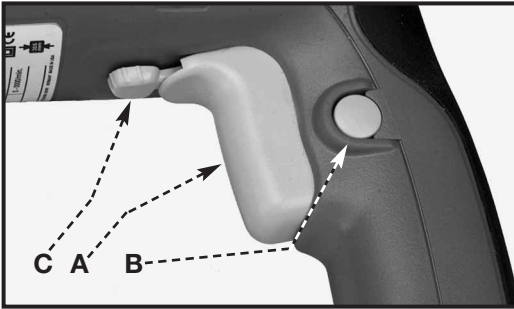

Fig. 1
2. Squeeze the trigger switch (A) Fig. 1 to start the motor. Release the trigger switch to stop the motor.
3. A switch-lock button (B) Fig. 1 is provided to keep the motor running without holding the trigger switch "ON".
4. This tool will operate in either the forward direction (clockwise rotation), or the reverse direction (counter-clockwise rotation). ALWAYS allow the motor to completely stop before reversing the direction. For CLOCKWISE rotation, move the switch button (C) Fig. 1 to the right. For COUNTER-CLOCKWISE rotation, move the switch button to the left.